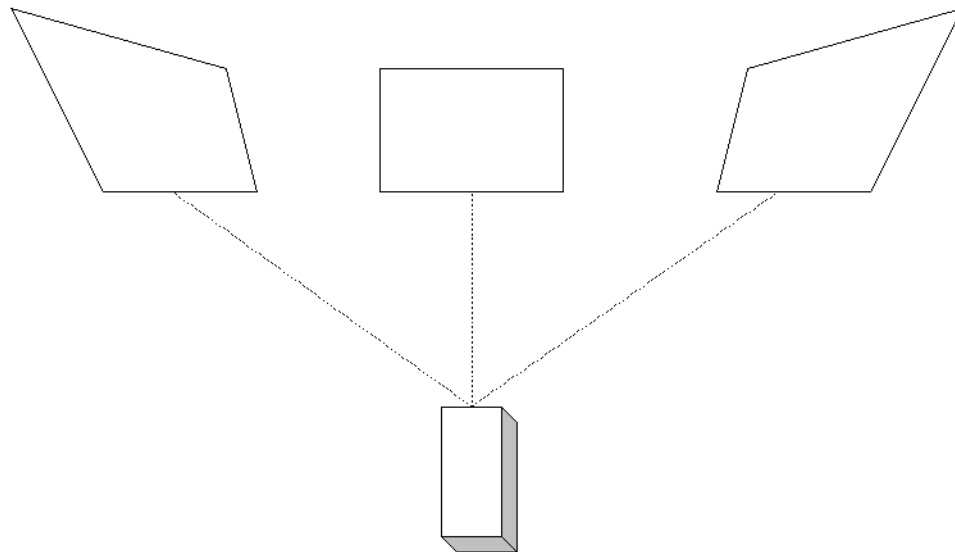

Figure 5: Projected Image with Lens Shift of 0.5
- b. If the bottom of the image remains flat (see Figure 5), the lens shift value is 0.5.